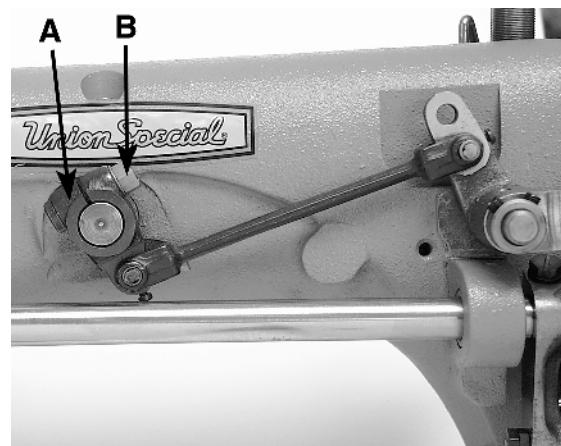

Fig. 6
Turn handwheel in the operating direction until the needle bar is at the bottom of its stroke. Loosen nut (B, Fig.6), and move upper feed lift driving lever (A) so that the teeth of the upper feed dog is 5/32" (7.9mm) for style 53700B and 3/16" to 13/64" (4.8 to 5.2mm) for style 53800B, above the top of the throat plate. Then tighten nut (B) securely.